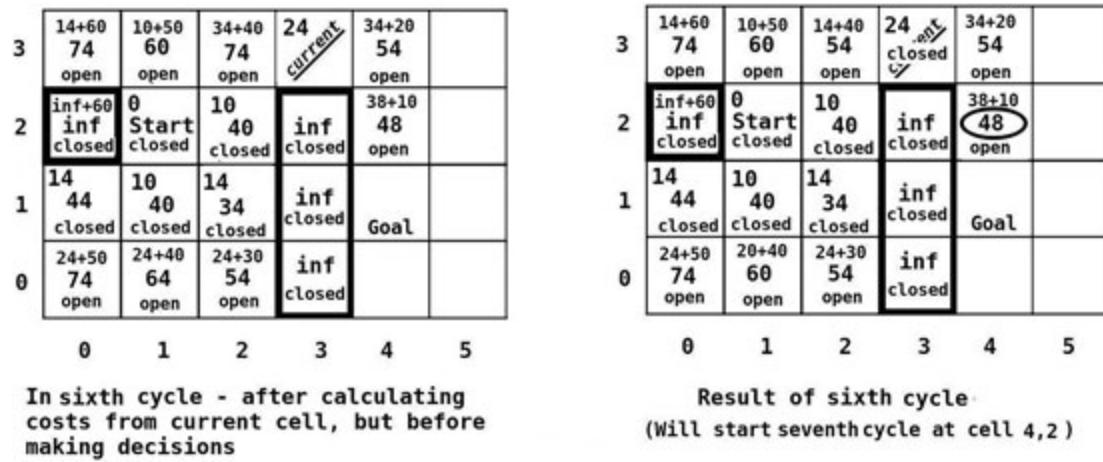

Figure 13.13: The sixth A cycle*
If you look over the right image in figure 13.12, you'll find that we have three cells in a tie for the lowest F cost. I am going to pick the one we can see is going in the right direction to save us some time, but in reality, your program might pick any of these. I think you can see that the cell I selected would become the current within a cycle or two anyway. See figure 13.13 below to see how cycle six works out.
Step 4: (The sixth cycle refer to figure 13.13)